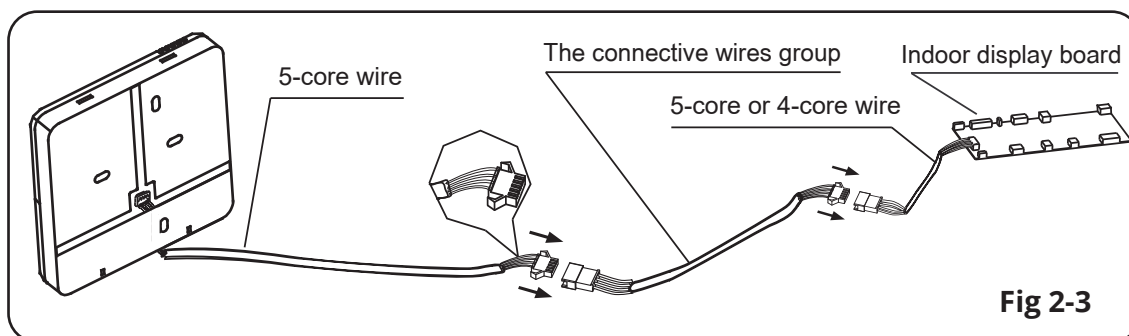

Fig 2-3
- Connect the female joint of wires group from the mainboard with the male joint of connective wires group. (See Fig.2-3)
- Please connect the other side of connective wires group with the male joint of wires group leads from wire controller. (See Fig.2-3)